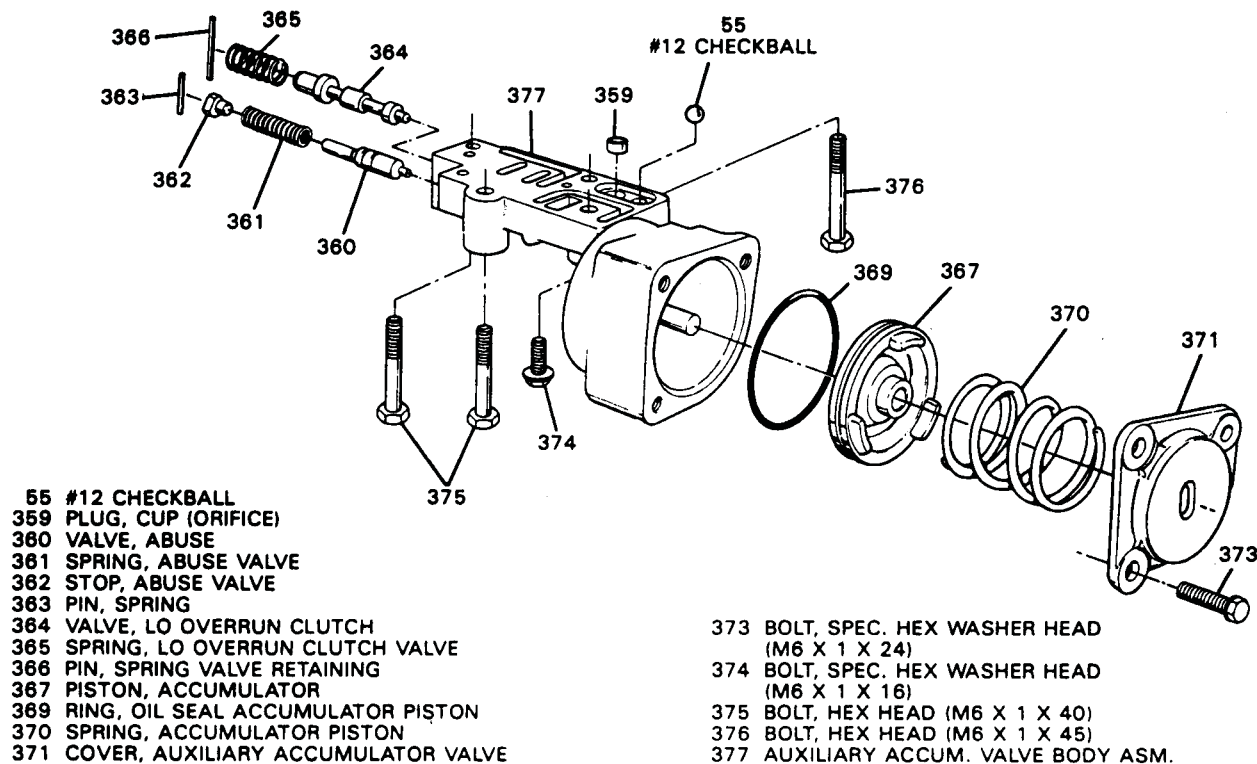

Figure 191
12. Assemble the auxiliary valve body EXACTLY as shown in Figure 191, using a new seal on the forward clutch accumulator piston.
13. Torque the three accumulator cover bolts to 8 ft.lbs. (Figure 191).
14. Install the No. 12 checkball into the auxiliary valve body in the position shown in Figure 191, and retain with a small amount of Trans-Jel. SOME AUXILIARY VALVE BODYS HAVE A RETAINER TO PREVENT THIS BALL FROM FALLING OUT.
15. Ensure that it is installed NEXT TO the orifice cup plug and NOT on top of cup plug (See Figure 191).